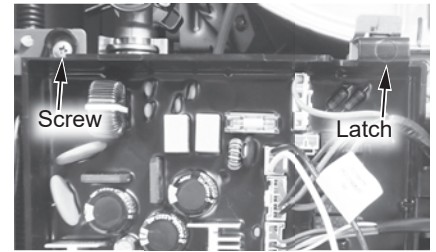

Figure 96 - Control board location
**6** Locate the screw securing the control board panel as shown in Figure 96. Use a Phillips screwdriver to remove the screw and place it aside in a safe place for reinstallation.